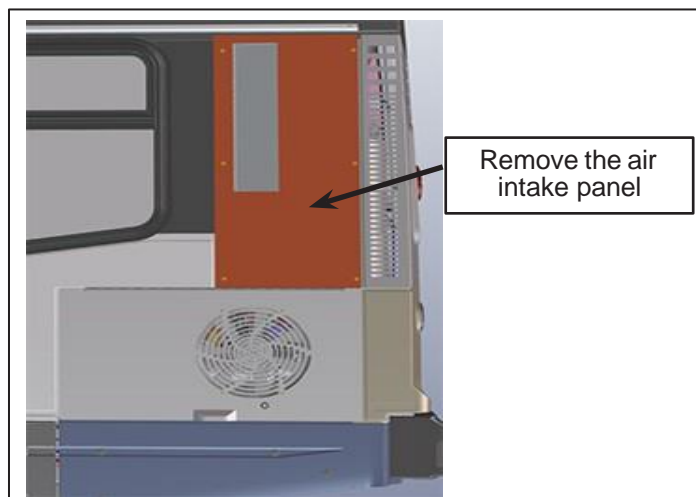

Figure 1 - Air Intake Panel
- 1.4. Remove the air intake panel. Reserve the panel and hardware. See Figure 1.